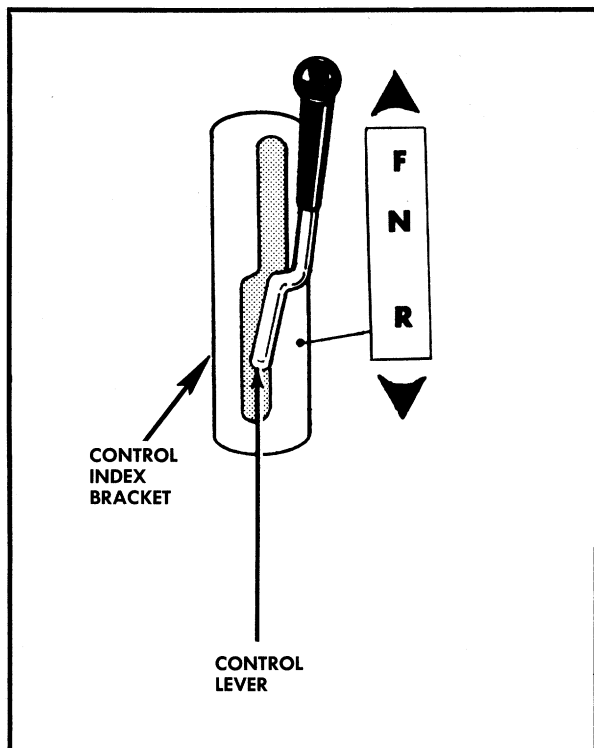
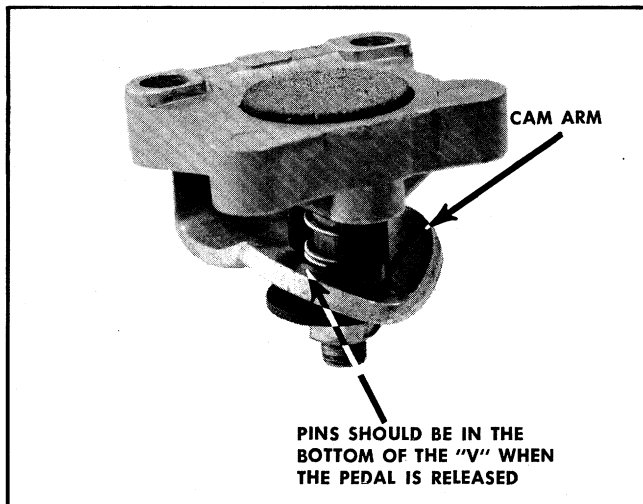

FIGURE 17. CONTROL LEVER
FIGURE 20. PEDAL ADJUSTMENT
2. Put the control lever in the neutral position. See Figure 17. Depress the foot pedal and move the parking brake into the Start/Park position. Put the axle range lever in the neutral position. Loosen the pedal adjustment nut on the end of the brake rod until the brake is loose. See Figure 20. The rear wheels can be rotated by hand freely now.
Step 1. With the Brake Pedal released, the pins on the disc brake should be in the bottom of the "V" on the cam arm as shown in Figure 20.